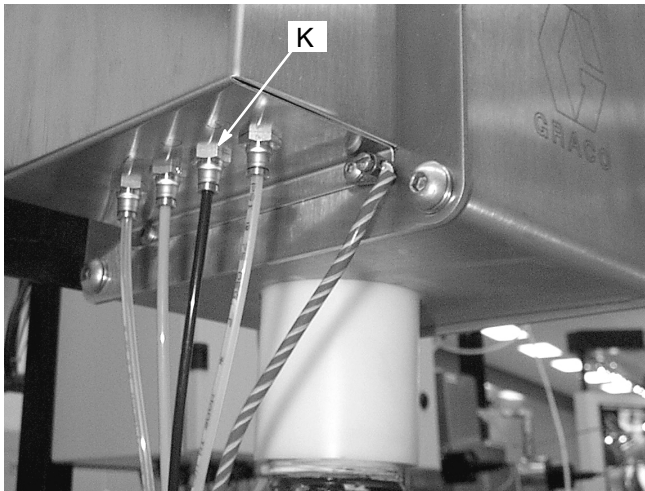

Fig. 9
2. Force the cylinder triggers on by connecting air to the **C** bulkhead (K). See Fig. 9. Turn on the air to extend both cylinders.